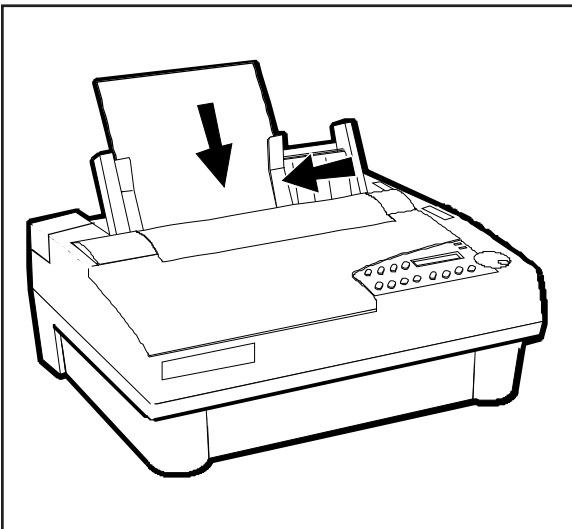

Figure 3-3. Loading a Form
4. Set a sheet into the left paper edge guide. Then, squeeze the rear clip on the right paper edge guide and position the guide up against the right edge of the form, as shown in figure 3-3.